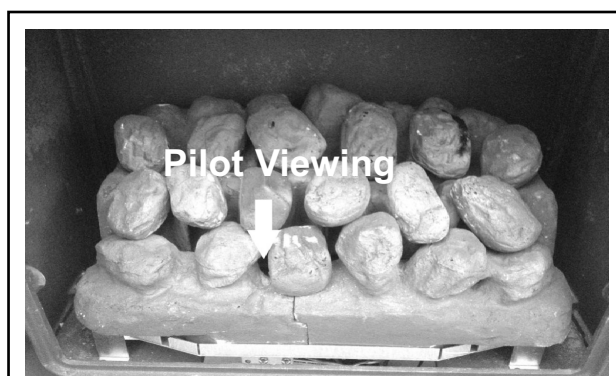

Figure 10a.
3. Turn the control knob clockwise to the 'Off' position. Repeat this operation until a flame appears at the pilot. The pilot can be seen by looking through the gap in the fuel effect (See figure 10a & 10b). There may be a delay before